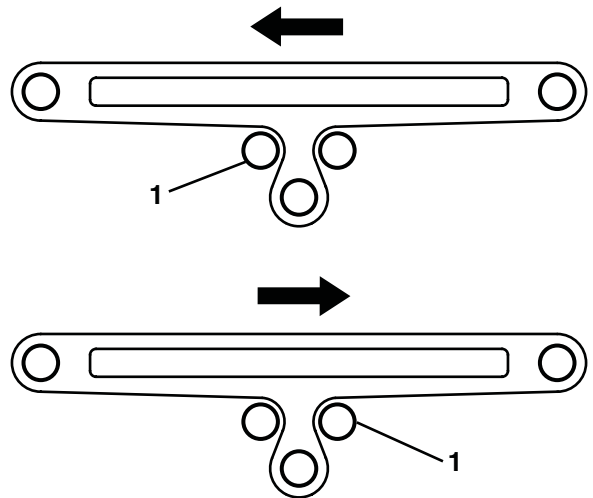

Figure 54
When installing a new belt, set conveyor tracking elements to the "zero position" and start the tracking procedure. The zero position is when the tails are tensioned out to the 6" dimension as shown in (Figure 51), and the infeed tension roller (Figure 54, item 1) on the center drive assembly is set to its outermost position (roller away from center of box, against guard).
Tracking of belt through the center drive is done by adjusting the position of the infeed roller (Figure 54, item 1) on the center drive assembly.